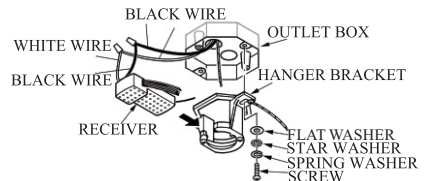

FIG.3
1. Securely attach the hanger bracket to the outlet box by washers and screws supplied. Connect white wire from ceiling to white wire from receiver with wire nut. Connect black wire from ceiling to black wire from receiver with wire nut. (see Fig.3)